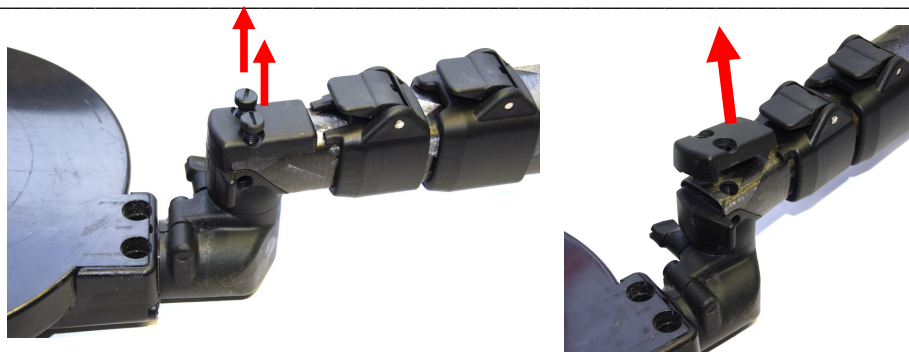

Figure 49: Removing Screws from Lower Shaft
- Remove the two screws (Nylon 14mm) from the cap shaft on the lower shaft as indicated in Figure 49.